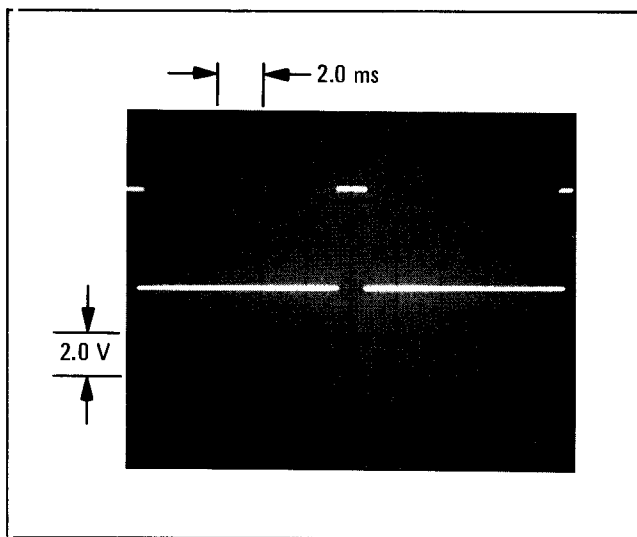

Figure 6. Display of U15B Output Pulse (with dc coupling to J2-Pin 8; external triggering from J3-Pin 4)
4. Verify that the signals are the same as those of Figures 6 and 7.